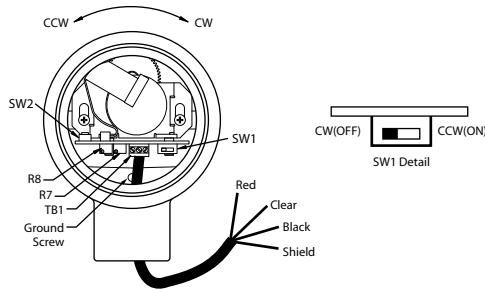

Figure 4:
- See Figure 4 on the next page for related information.
This provides access to the edge of the SG1000C's printed circuit board, namely the direction switch SW1 (the slide switch), and the calibration switch SW2 (the push-button switch). See Figure 4 for locations of these switches.
- If the encoder shaft turns in the CW direction as the process's shaft is turned from the 0° home to the 359° full-turn position, then set SW1 to the OFF position (i.e., toward the center of the PC board). See Figure 4.
process's shaft is turned from the 0° home to the 359° full-turn position, then set SW1 to the ON position (i.e., toward the edge of the PC board). See Figure 4.
- D) Assuming conditions (A), (B), and (C) are proper, and your SG1000C still seems to behave improperly, then try re-calibrating again, paying close attention to the six calibration steps.
- 2) If you have gone through troubleshooting hints (1A), (1B), (1C), and (1D), and if your SG1000C seems to otherwise respond properly, from 0° to 359° of rotation, with the only exception being that strange values other than 4 mA and 20 mA are output for the positions (e.g., 3 mA at 0° home position and 23 mA at the 359° full-turn position), then possibly the R7 and R8 factory potentiometer settings have been tampered with. See Figure 4 for location of these pots. Evidence of R7 and R8 tampering is most easily seen when in the calibration mode. When R7 and R8 are at their factory-settings, the output signal is 12 mA during calibration mode. (Recall that the output signal remains at 12 mA until the calibration process is completed). If during calibration mode the output signal is not 12 mA, then most likely the R7 and R8 factory-settings have been tampered with.